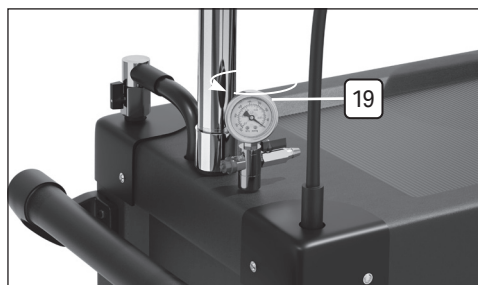

Fig.3
6.4 Fitting the Pressure Gauge (Fig.3)